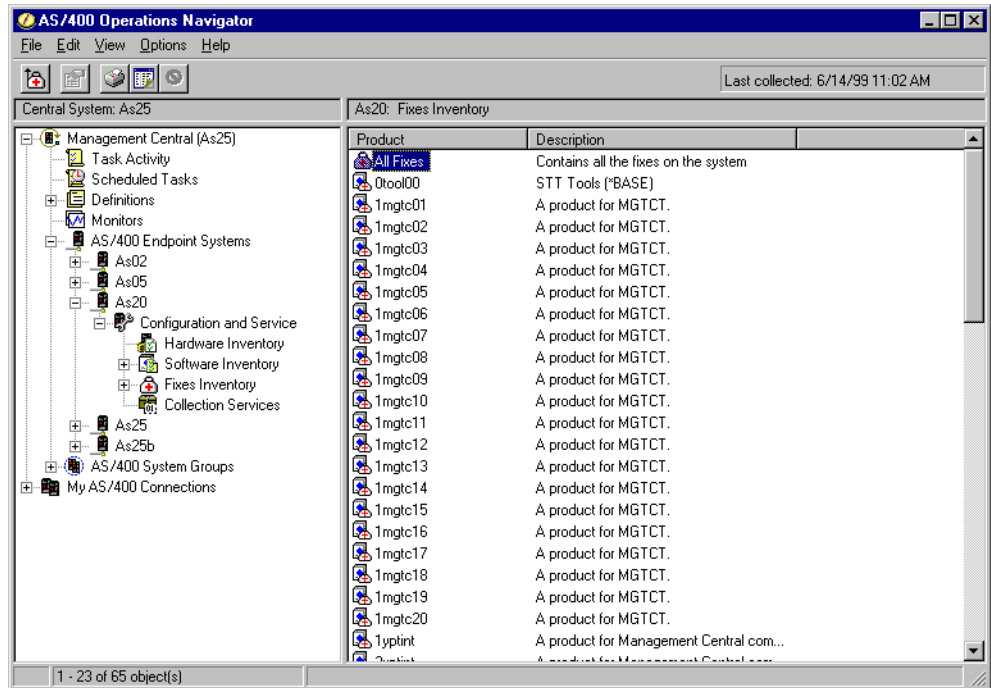
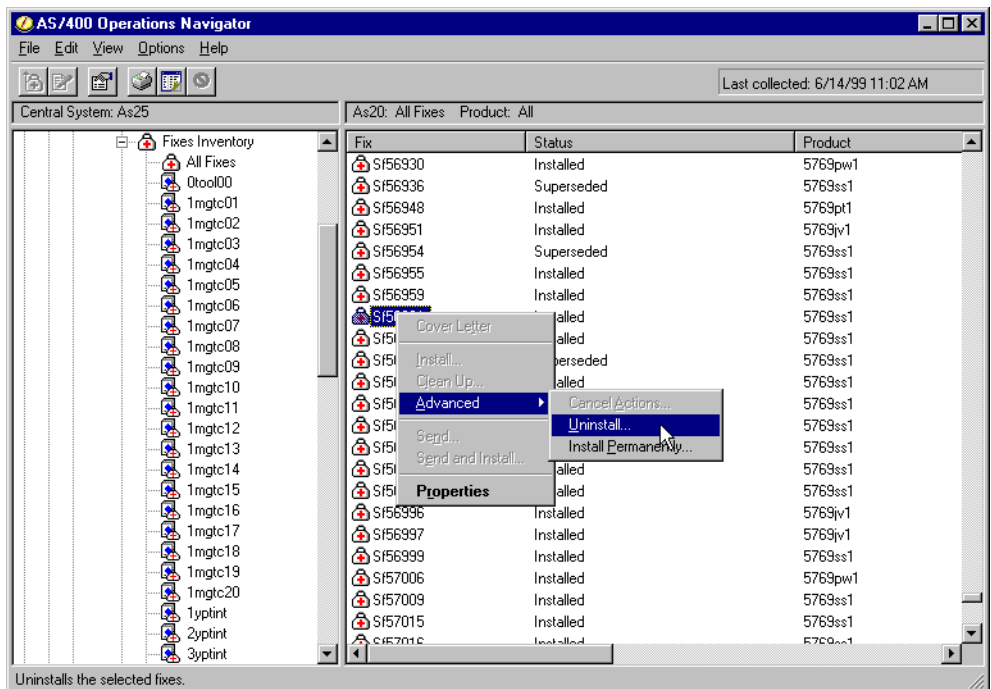

Figure 99. Fixes Inventory displayed
Figure 100. All Fixes list displayed: Fix selected to uninstall
4. Click **Fixes Inventory** to see a list of installed fixes appear on the right, as shown in Figure 99 on page 120.
5. Scroll to the installed product in which the fix is to be uninstalled and click on it. If you do not know on which product the fix was installed, click on **All Fixes**, which is shown as selected in Figure 99. You can then scroll through a list of installed fixes, as shown in Figure 100.
7. Right-click on the fix to be uninstalled again. Select **Advanced**. Then, click on **Uninstall** as shown selected in Figure 100 on page 120. This starts the Uninstall Wizard and presents the Uninstall Fixes – Welcome window.